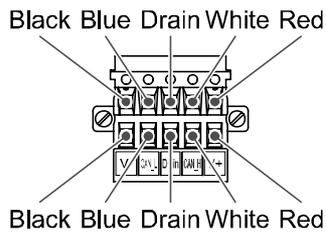

Fig. 1
- Make sure to connect the signal cables to designated pins (Refer to Fig. 1). And tighten the connector surely to 0.5 to 0.6 Nm tightening torque.